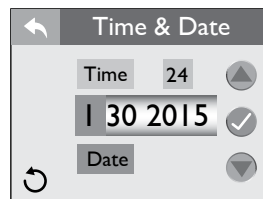

Figure 12.9d
1. Tap  to program the date, Figure 12.9d.